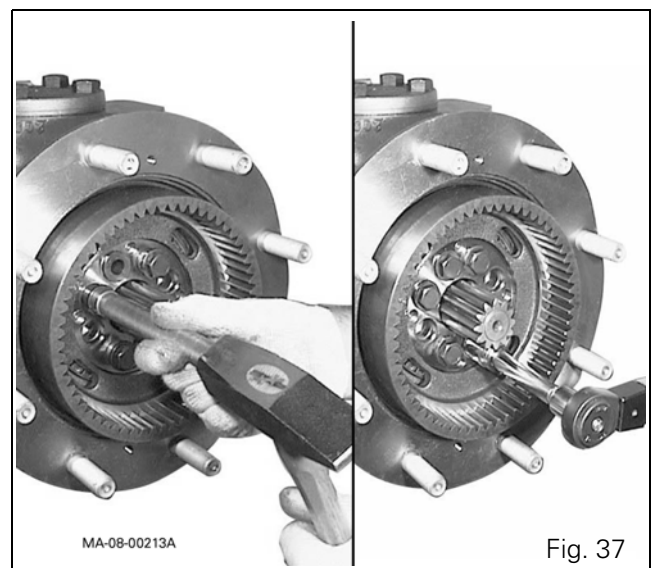

Fig. 37
36. Force fit all the rings using special tool ref. CA715027 (see § K) and a hammer. Fit the ring gear carrier screws and tighten to the required torque (see chapter 8) (Fig. 37).